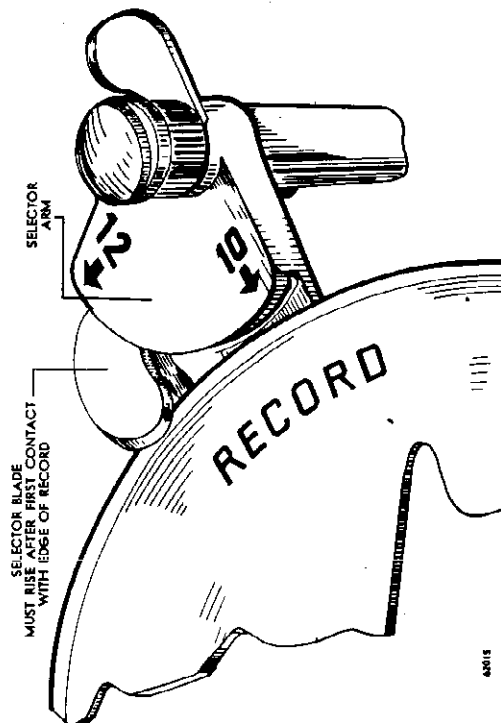

FIGURE 20. TOP VIEW
1. BLADE ADJUSTMENT (see fig. 20)